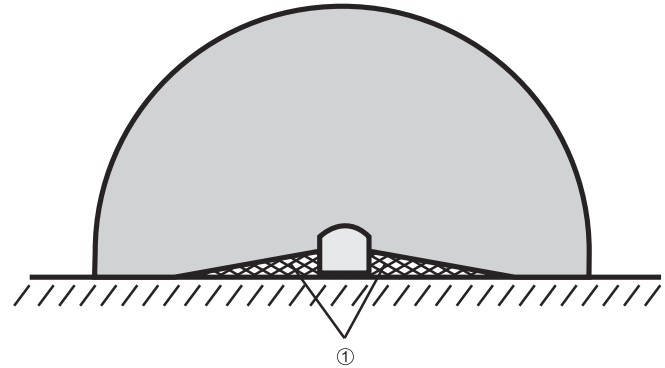

Figure 26: Example of mounting with hard guards
- ➔ Design the recess ① to be sufficiently deep enough that it completely covers the area not protected by the safety laser scanner (Figure 26) and such that standing in an unscanned area ② is not possible.